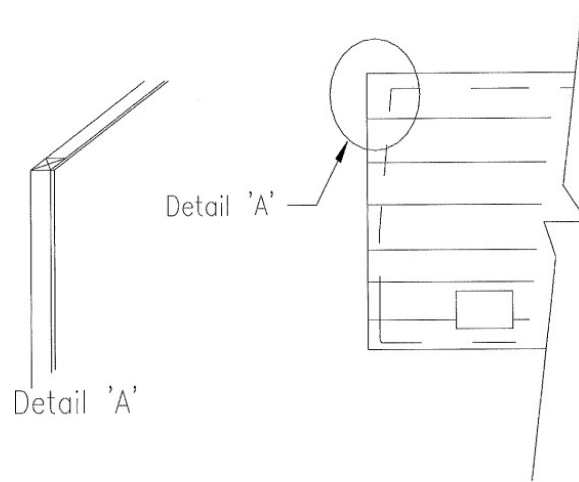

Figure 8
- Metal terminating at all corners and openings should be routed flush with, or recessed from, all framing members. (See Figure 8)